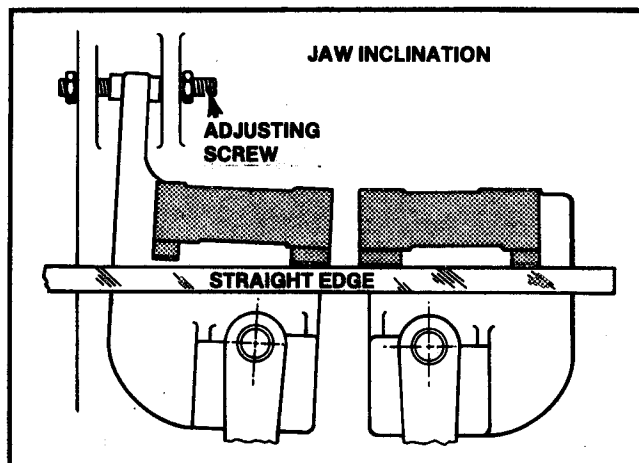

FIG. 17. INCLINATION MISALIGNMENT - FIXED JAW IS INCLINED.
- (2) **Inclination.** Check to see if jaw inclinations are parallel. See Fig. 17.